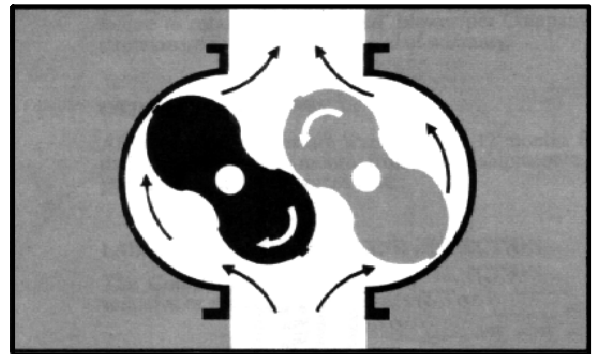

FIGURE 1 - OPERATING PRINCIPLES
| Figure 1  | Operating Principles .....                    | 1  |
**OPERATING PRINCIPLES** – The 4500 Series rotary blowers are the positive displacement type with two figure-eight shaped impellers rotating in opposite directions inside the casing. As each lobe of an impeller passes the blower inlet, it traps a quantity of air equal to exactly one-fourth the displacement of the blower. This trapped air is forced around the case to the blower outlet. Timing gears accurately position the impellers in relation to each other to maintain the minute clearances so vital to the high volumetric efficiency of the rotary positive displacement blower. See FIGURE 1.